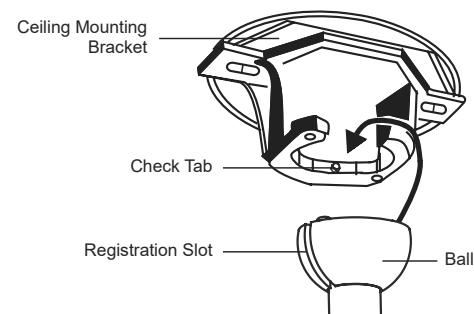

Fig. 9
Step 9. Lift the motor assembly into position and place the ball into the ceiling mounting bracket. Rotate the entire assembly until the fiCheckTabfl has dropped into the “Registration Slot” and seats firmly. **(Fig. 9)**